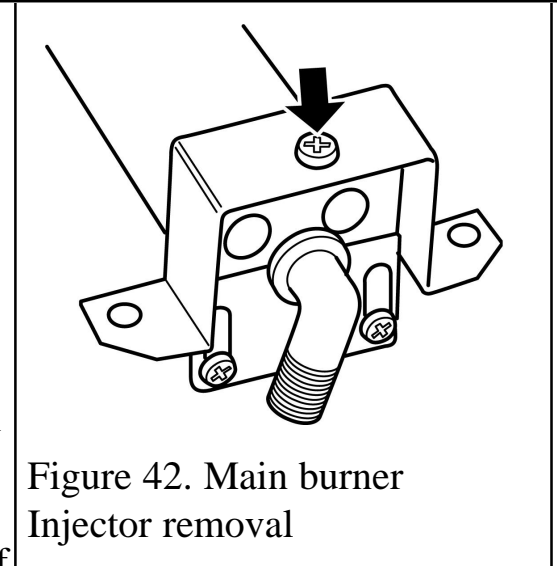

Figure 42. Main burner
(See figure 42).
2. Remove the burner clamping screw (See figure 42)